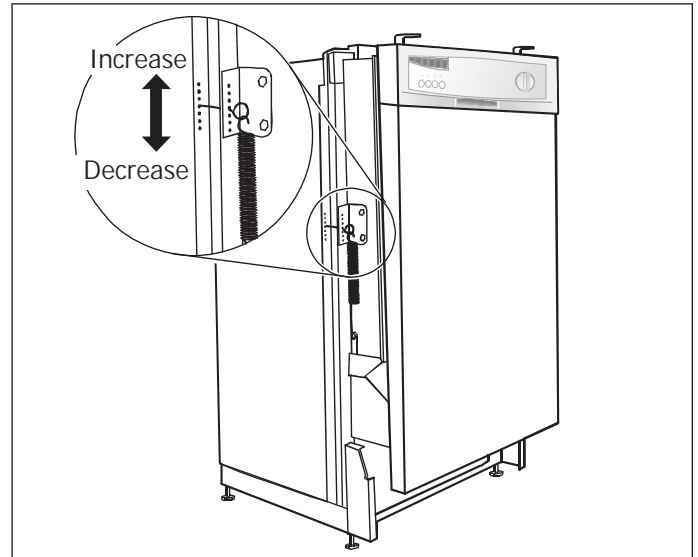

Figure 2-7.
3. Pull the spring adjustment pin out of the holes, insert in the next highest or lowest hole and test again. (See Figure 2-7)